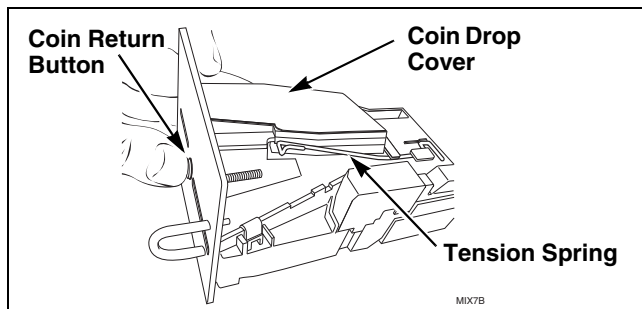
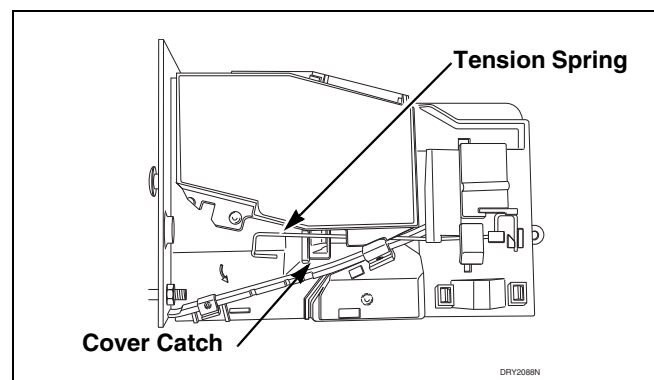
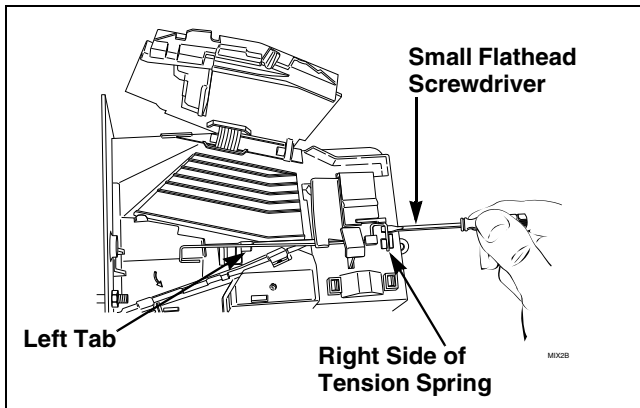

Figure 2
Figure 4
Figure 5
- (1) Clean coin drop. Refer to *Paragraph 29*.
- (2) On electronic coin drops with an old-style tension spring (shown in *Figure 2* and *Figure 4*), test and replace tension spring using the following instructions.
- (1) Push coin return button to open and close coin drop cover to clear possible coin jams. Refer to *Figure 2*.
- (1) Move tension spring downward until cover catch is free. Refer to *Figure 4*.
- (3) Place a small flathead screwdriver under right side of tension spring and lift up. Refer to *Figure 5*.
- (4) Use screwdriver to move spring approximately 3 mm to left.
(5) Lift spring over left tab. Refer to *Figure 5*.
- (1) Reinstall coin drop into machine.
- (2) Reconnect electrical power to machine and drop.
- (3) Add a coin to drop to verify that coin drop is operating properly and that electrical connection is working properly.
- (13) Lift spring gently to place in position under left tab.
- (14) Push spring to right until it snaps into position. Refer to *Figure 5*.
- (15) Close coin drop cover.
- (16) Move tension spring over cover catch. Refer to *Figure 4*.